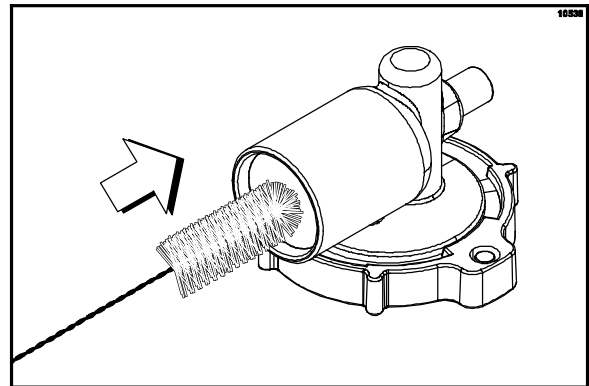
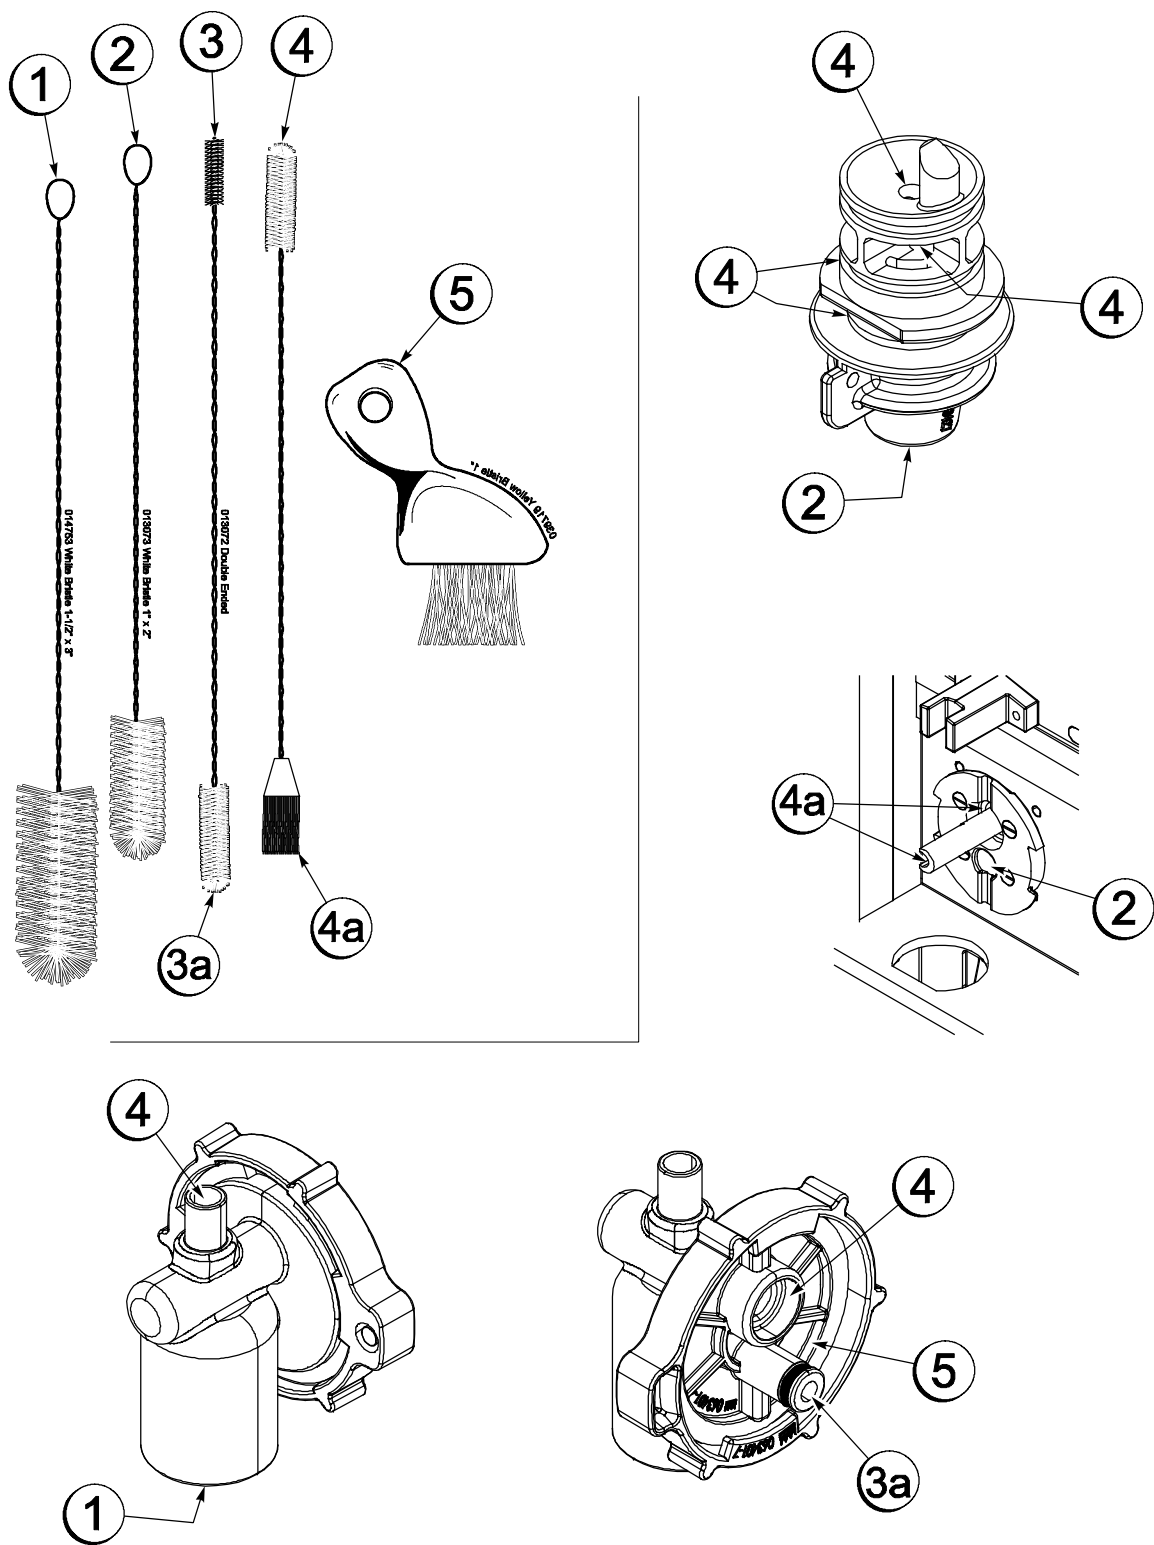

Figure 46
Figure 48
9. Make sure all brushes provided in the accessory kit are available for brush cleaning. Refer to the brush cleaning chart on page 23 (Figure 48).
15. Brush clean the pump motor shaft and the pump housing, using the brush cleaning chart on page 23 as a guide (Figure 48).
22. Thoroughly brush clean these parts in the cleaning solution. Brush all openings in the pump heads and the mixing nozzle, using the appropriate size brushes. (See Figure 46 below and the Brush Cleaning Chart [Figure 48] on page 23.)